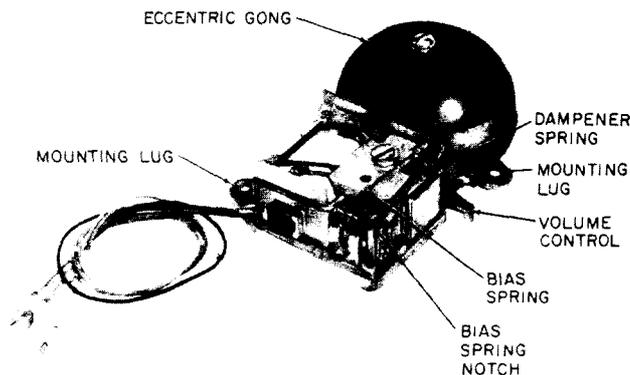
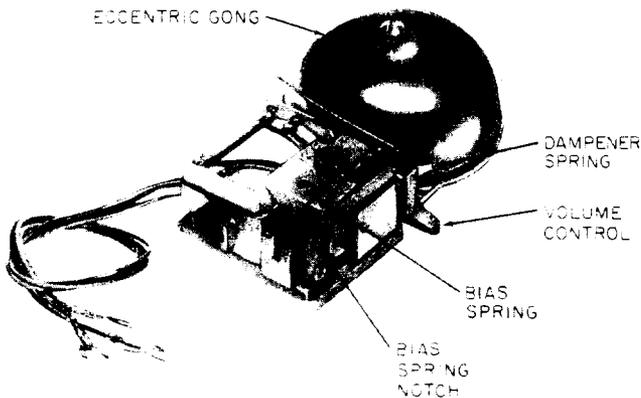

Fig. 1—M1A Ringer (manufactured after March 1, 1979)
Fig. 3—N1A Ringer (manufactured after March 1, 1979)
2.01 The M-type (Fig. 1 and 2) and N-type (Fig. 3 and 4) ringers are high-impedance, single-coil, single-gong ringers. The coil on the M1A, M2B, and N1A has four spade-tipped leads
2.06 The dampener spring shown in Fig. 1 and 2 is used in both M- and N-type ringers.